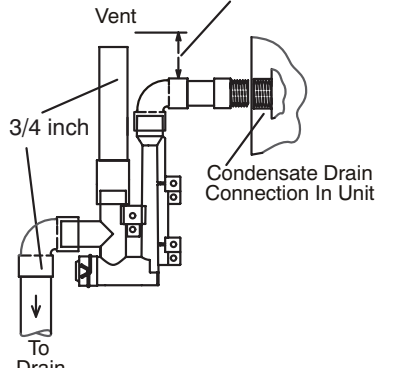

FIGURE 48
- 3 - Install the cap over the clean out opening at the base of the trap. Secure with clamp. See FIGURE 48.
- 4 - Install drain trap using appropriate PVC fittings, glue all joints. Glue the provided drain trap as shown in FIGURE 48. Route the condensate line to an open drain.